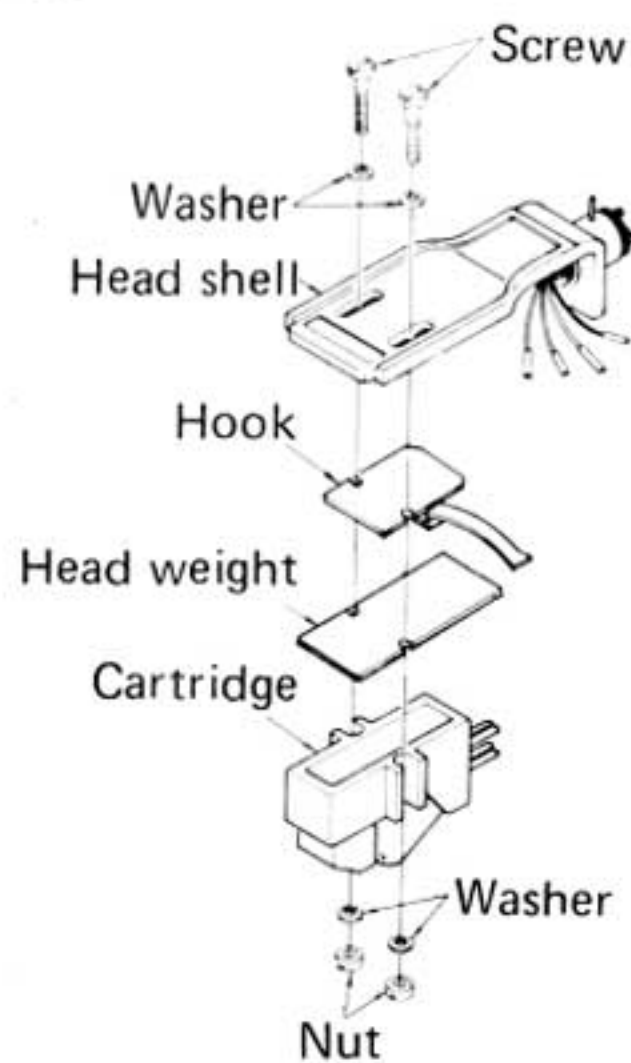

Fig. 7
5. If the weight of the cartridge being used is lighter it may be necessary to use the Head Weight to the head shell to balance the tone arm. (Fig. 7).